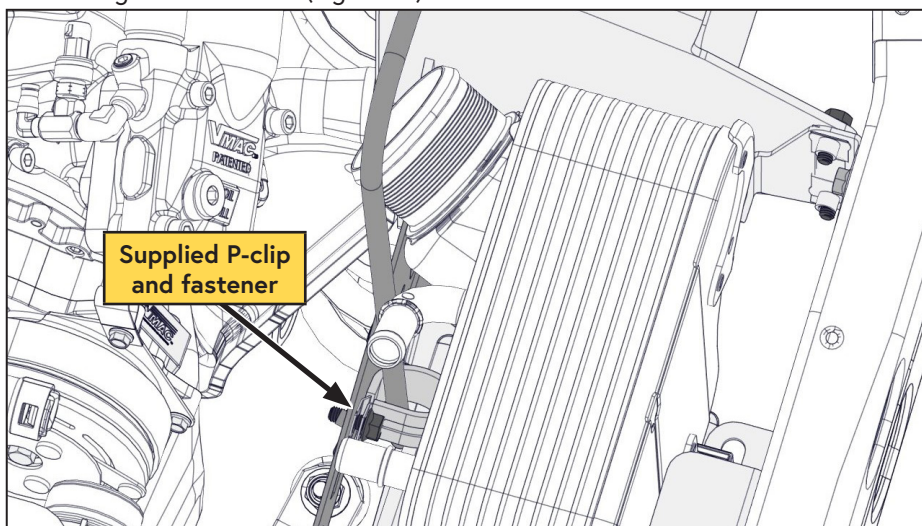

Figure 88 — Installing the CAC
- ☐ Using the supplied P-clip and fastener, secure the degas tank overflow hose to the degas tank bracket (Figure 88).